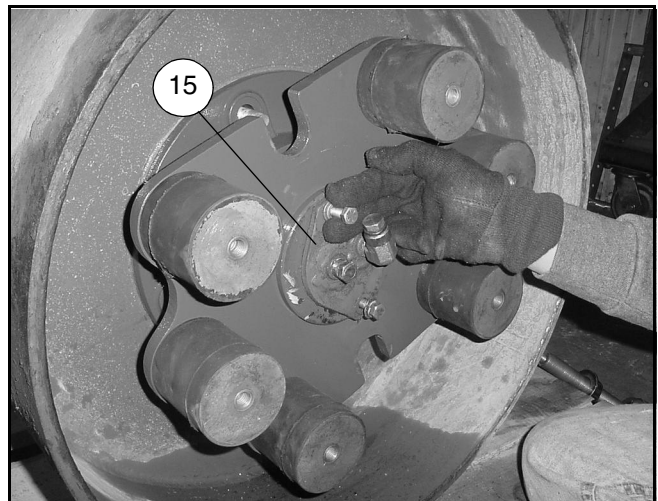

Figure 1
2. Remove the end cover plate (15) and let the lubricant drain into a suitable container. See Figure 1.
2. On the end opposite the motor, remove the bearing end plate (15), Figure 1.